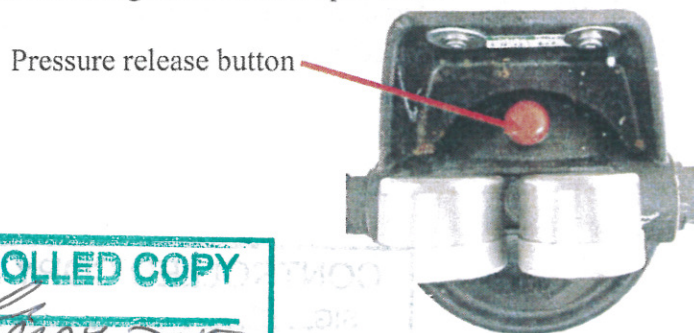

Figure 17: Pressure release button.
- 6.9.10. **Bleed Trapped Air.** Press the pressure realise button identified in Figure 17: to bleed any air trapped inside the filter.